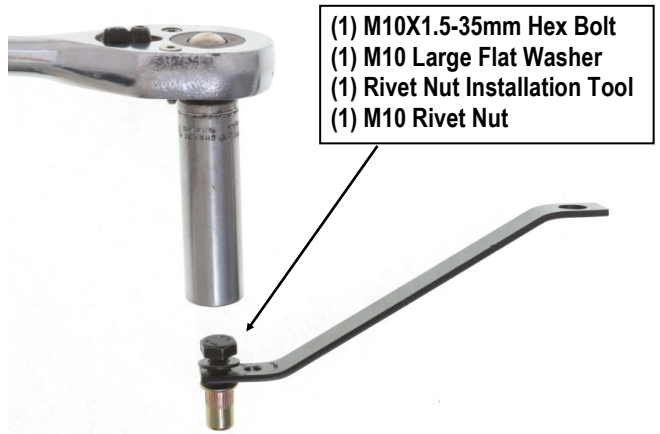

Fig 7
- a. Locate the single factory hole as previously described in **Step 2, (Fig 6)**. Select the Rivet Nut Installation Tool, (1) M10 Rivet Nut, (1) M10 Large Flat Washer, (1) M10 Hex Nut and (1) M10X1.5-35mm Hex Bolt. Assemble the tool as pictured in **Fig 7**. **NOTE:** Select 10 mm hole on Insert Installation Tool, **(Fig 7A)**.